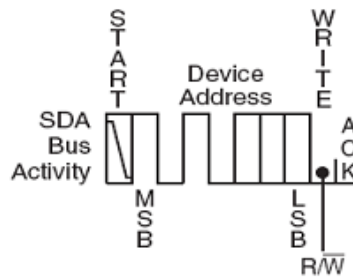

Figure 6: Dummy write operation
- 1) Send a dummy write operation to EEPROM, the dummy write operation includes a START condition and a slave address, shown in figure 6.